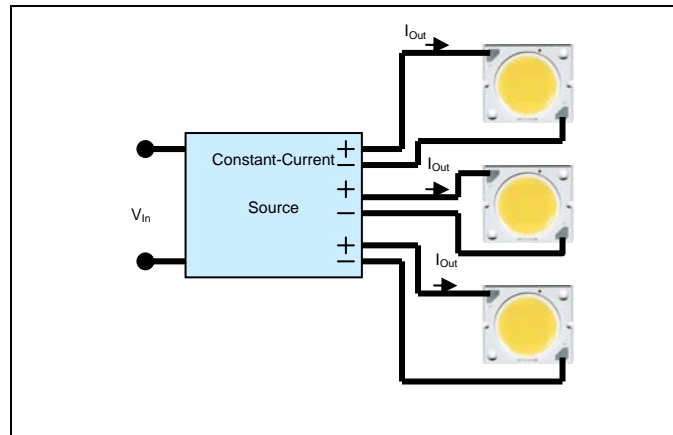

Figure 8: Bridgelux LED Arrays driven by a driver with multiple constant current output channels
- Drivers are also available which have multiple output channels. If a driver with multiple constant current output channels is selected, the number of channels needs to be sufficient to drive all of the LED Arrays (Figure 8).